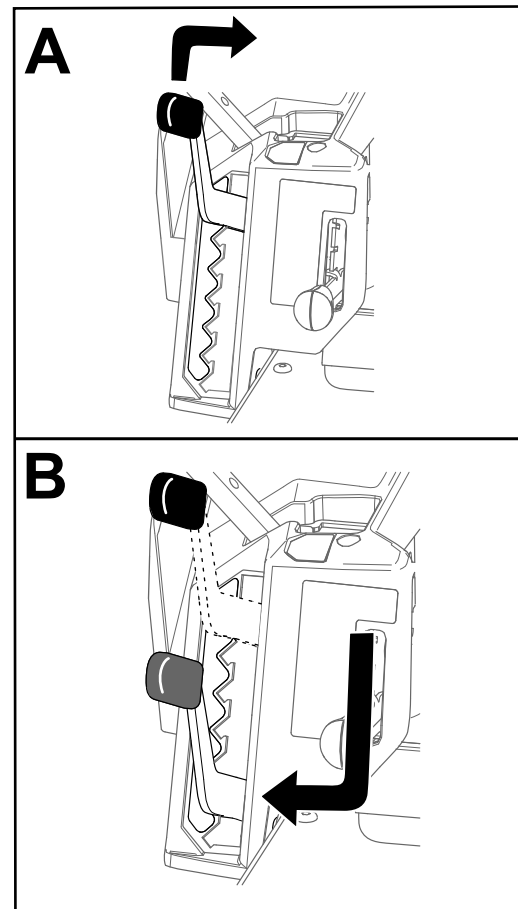

Figure 25
**Note:** The transport position is the highest height-of-cut position or cutting height at 114 mm (4-1/2 inches) as shown in Figure 25.
You can adjust the height of cut from 38 to 114 mm (1-1/2 to 4-1/2 inches) in 13 mm (1/2 inch) increments. The height of cut is controlled by the lever located to the right of the operating position (Figure 25).